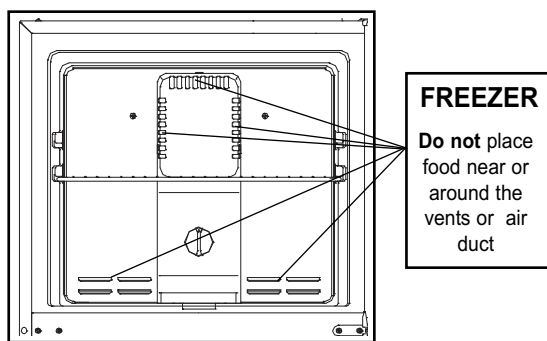

Fig.3.
- 10) Remove the left door stop and screw for the freezer door from the accessory bag and attach it to the handle (see **Figure 3** on following page) **Note:** The left door and the right door stop of the freezer door are different.
- Do not place food so that it blocks an air vent, and leave adequate space between food items for air flow in the cabinet. (see Fig.3.)